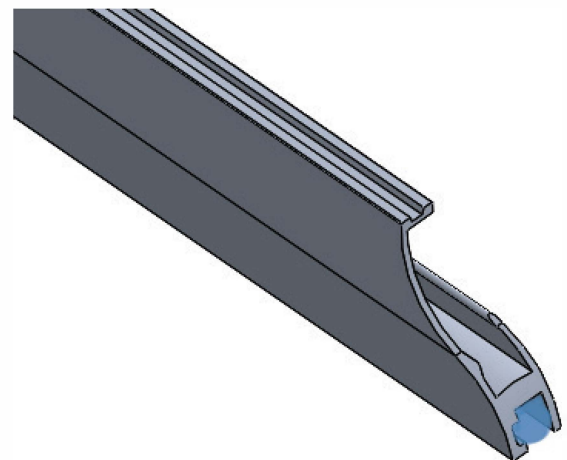

FIG 18.
- Place a generous bead of silicone in the underside groove of the sliding door track (**FIG 18**).